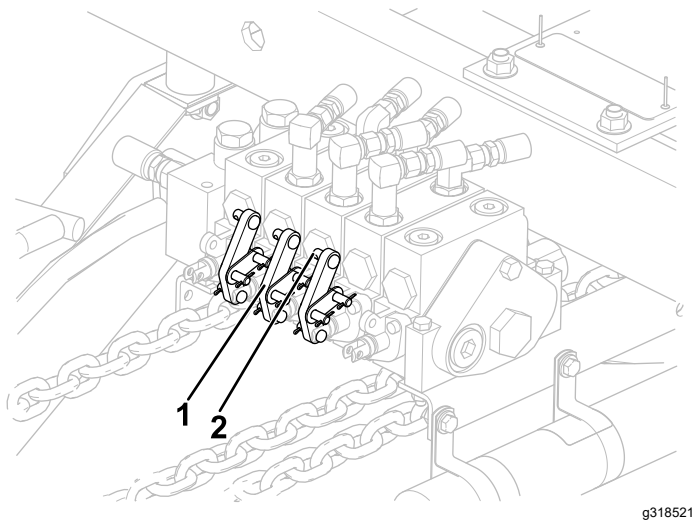
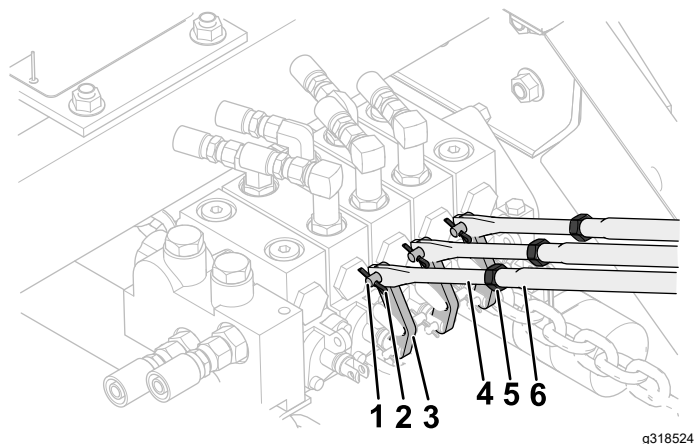

Figure 9
Figure 10
- Ensure that the valve-spool levers (Figure 9) are in neutral (middle position) by pivoting the levers
8. Thread a hex nut (7/16 inch) onto each of the lower control rods (Figure 10).
10. Partially thread the lower control rods into the upper control rod (Figure 10).
11. Align the hole on the end of the lower control rod (Figure 10) with the mounting pin in the control-valve lever (Figure 9).
13. Secure the control rods to the control-valve levers with the cotter pins (Figure 10).
15. When the levers are adjusted correctly, tighten the hex nuts on the lower control rods (Figure 10).